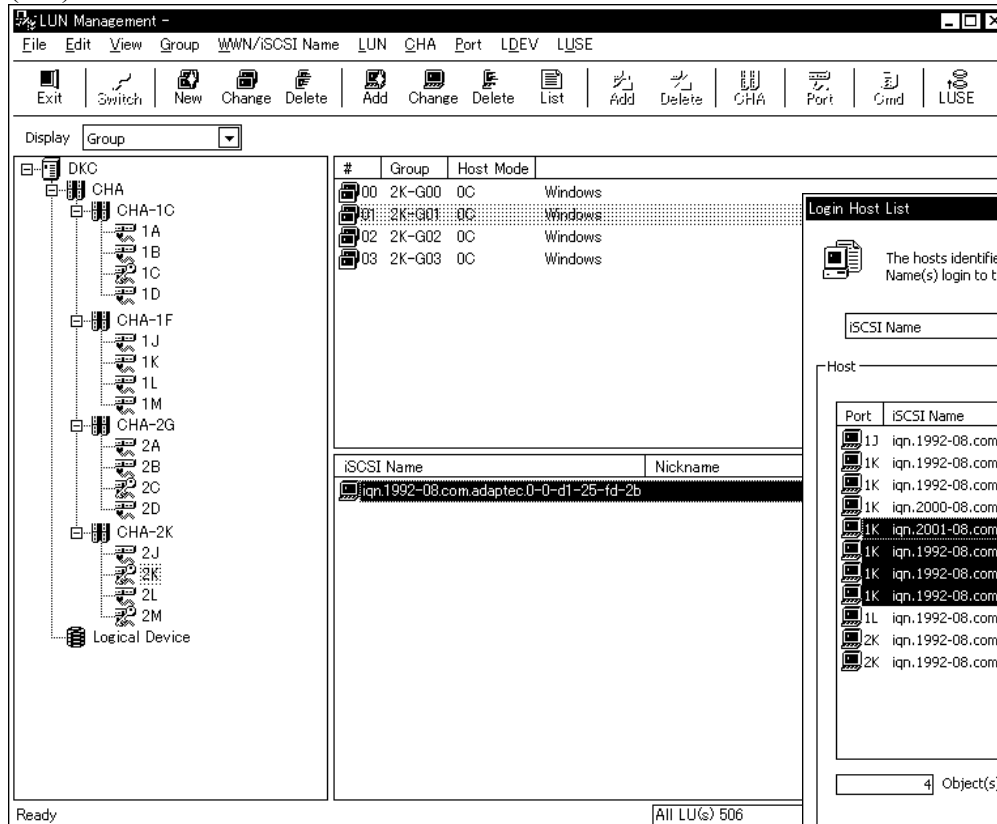
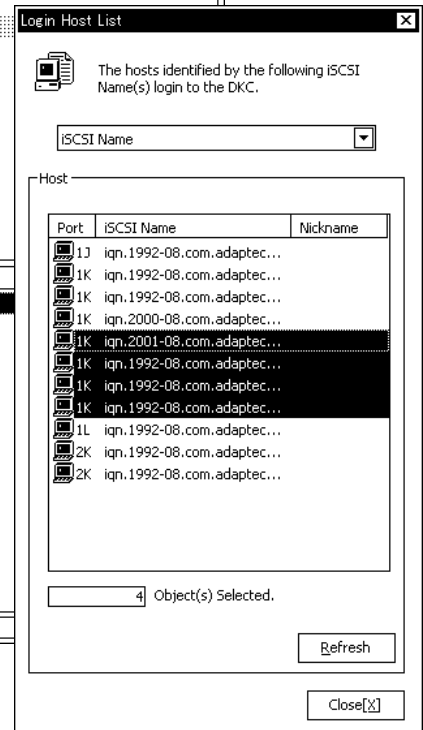

Figure 4.8.1 Main Window
Figure 4.8.2 Login Host List Window
Select (DR) [Login List] from the [WWN/iSCSI Name] menu in the Main Window (Figure 4.8.1), Login Host List Window (Figure 4.8.2) is displayed. When you select the 'WWN' or the 'iSCSI Name', the login WWNs or iSCSI Names are displayed respectively.